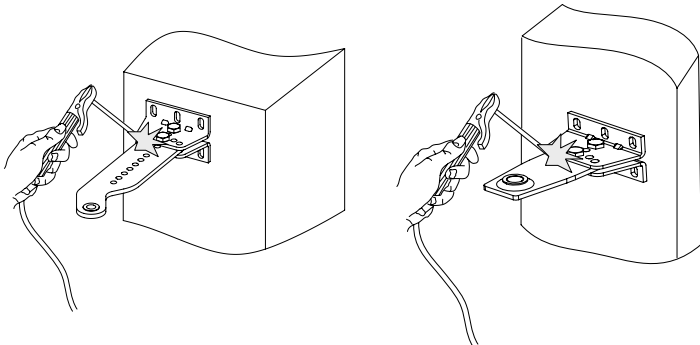

Figure 10. Welding front and rear fittings
- Check the installation and weld the parts of the front and rear fittings (*fig. 10*), making sure to protect the drive from corrosion due to welding effects. Protect the welded spots from corrosion by applying a protective coating.